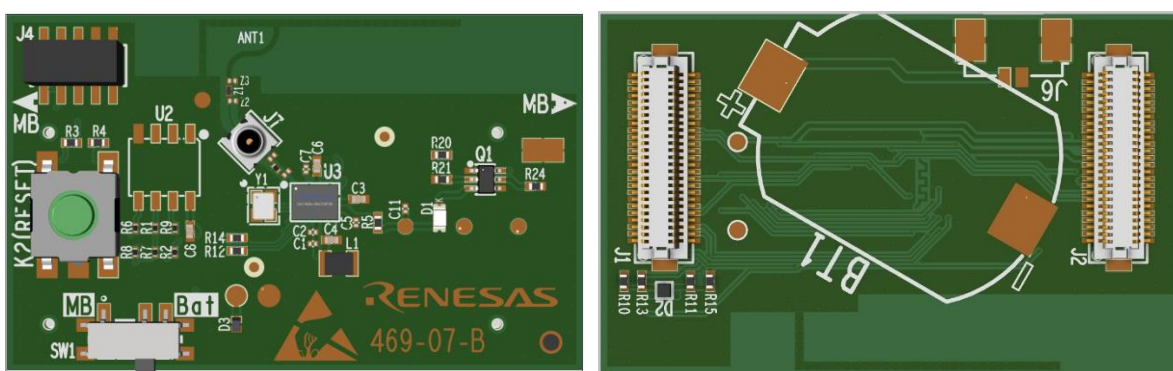

Figure 17. SW1 (left), available battery sockets on the bottom side of the daughterboards (right)
- Supply from LDO on Pro-motherboard by setting SW1 to motherboard, see Figure 17.
- Supply directly from Battery by setting SW1 to **Bat** see Figure 17.
- Place holder for a Coin cell 2016 lithium battery socket (BT1) on the bottom layer of each daughterboard (Figure 17).